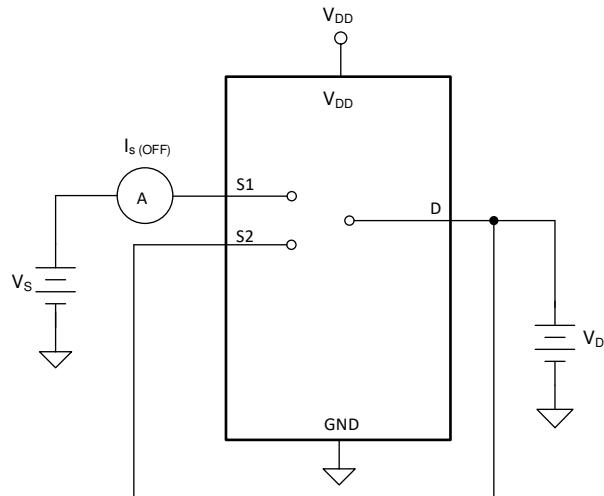

**图 6-1. On-Resistance Measurement Setup**
The on-resistance of a device is the ohmic resistance between the source (Sx) and drain (D) pins of the device. The on-resistance varies with input voltage and supply voltage. The symbol  $R_{ON}$  is used to denote on-resistance. The measurement setup used to measure  $R_{ON}$  is shown in 图 6-1. Voltage (V) and current ( $I_{SD}$ ) are measured using this setup, and  $R_{ON}$  is computed with  $R_{ON} = V / I_{SD}$ :